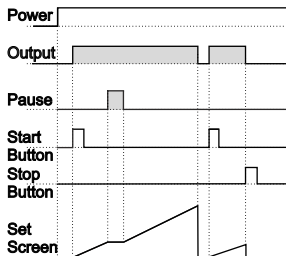

Figure 1.3
1.2.1 If Upcount  $\overline{dEct}$  =0 and  $\overline{outF}$  is  $\overline{b-n}$  the control diagram is shown in Figure 1.3